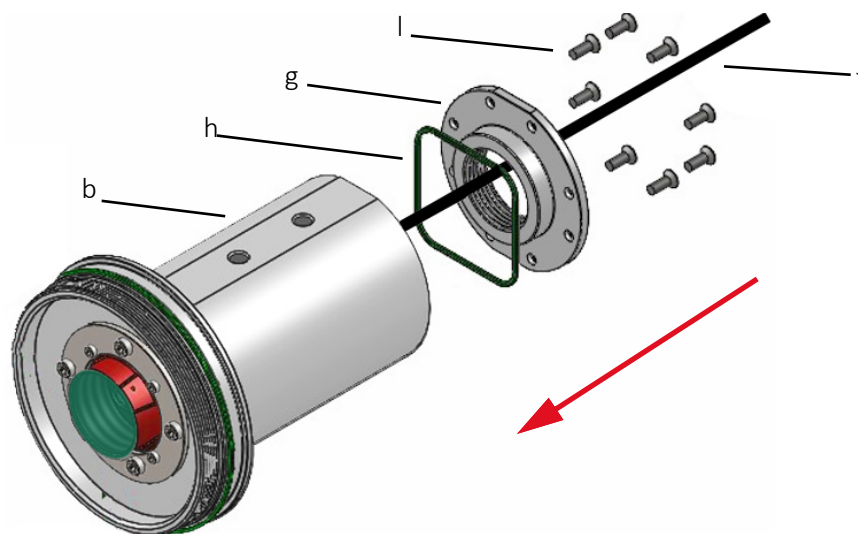

Figure 8: Mounting the Back Plate (g) to the Camera Tube (b)
20. Slide the Seal Ring (h) for the Back Plate (g) over the cable (J) and place it on the bottom of the rear hole of the Camera Tube (b). See Figure 8.
Ensure the Back Plate (g) aligns with the Camera Tube (b) as shown in Figure 8.